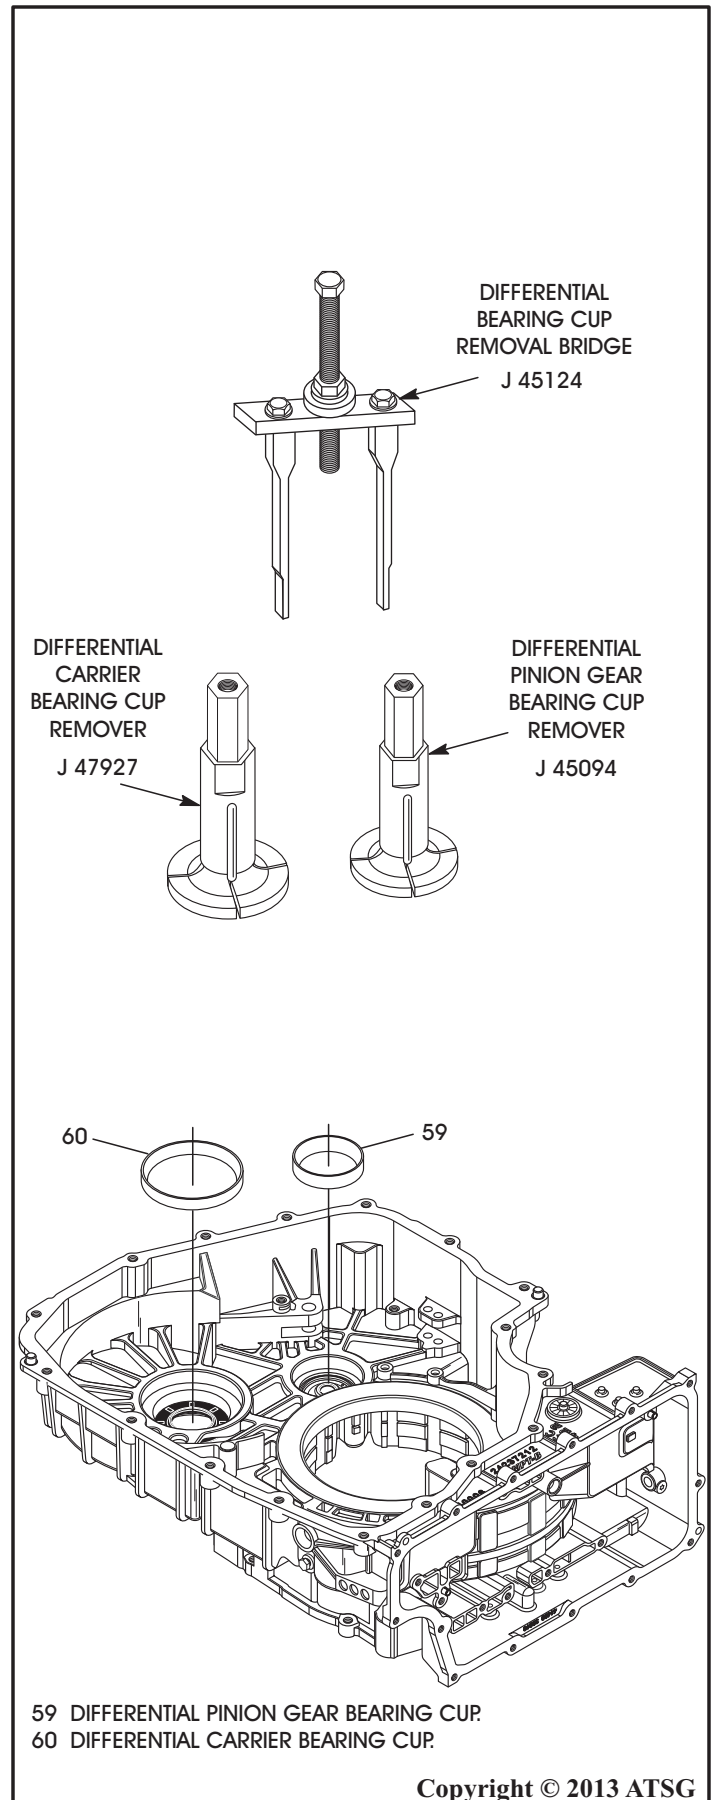

Figure 79
9. If bearing service is required, remove the bearing cups from the case using the removal tools that are shown in Figure 79.